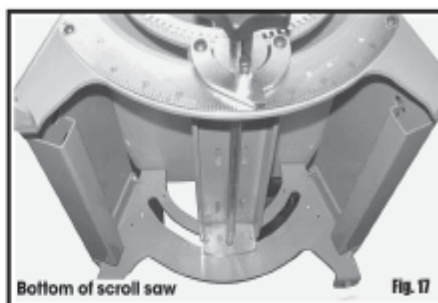

Fig. 17
- An occasional application of a light dab of grease on the front and rear trunnions (See Fig. 17) will keep the tilting mechanism working smoothly. If you find the tilting mechanism becoming more difficult to operate, thoroughly wipe off any built-up cutting dust on the trunnions and re-apply a little grease.